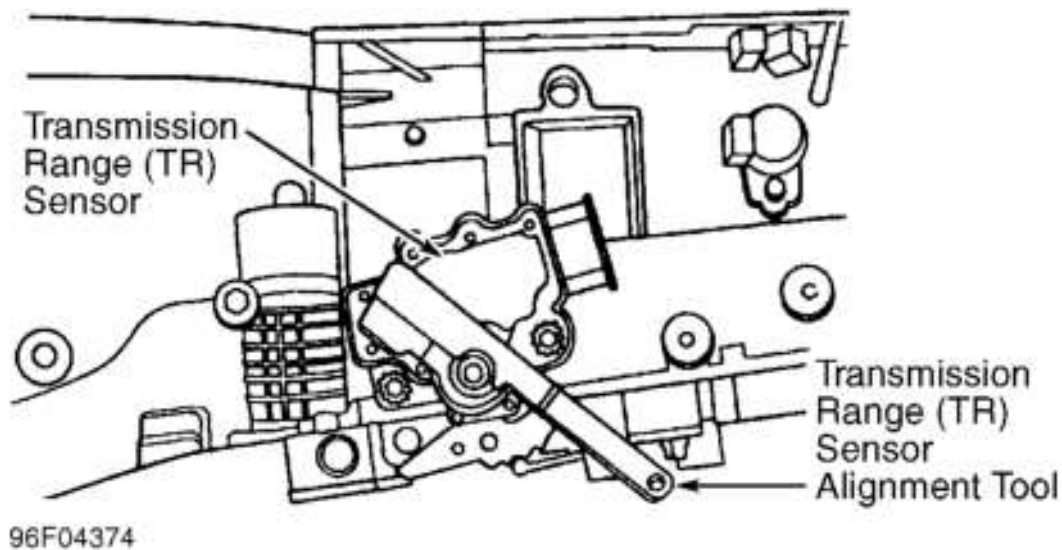

Fig. 3: Adjusting Transmission Range (TR) Sensor
2. Insert Transmission Range Sensor Alignment tool (T93P-70010-A) into slots. See **Fig. 3** . Align the three slots on TR sensor with tabs on adjuster. Tighten bolts to specification. See **TORQUE SPECIFICATIONS** .